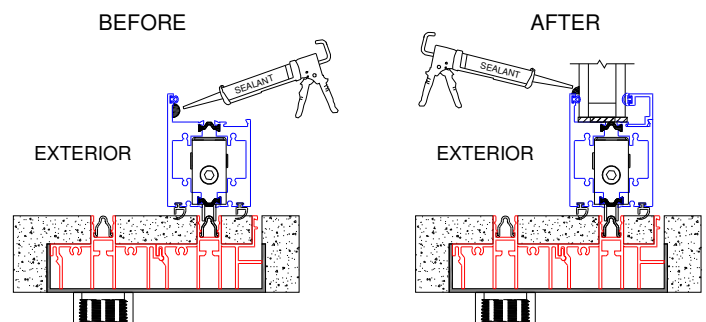

Figure 14:
- Apply a continuous 1/4"×1/4" bead of sealant before glazing. (Figure 14).